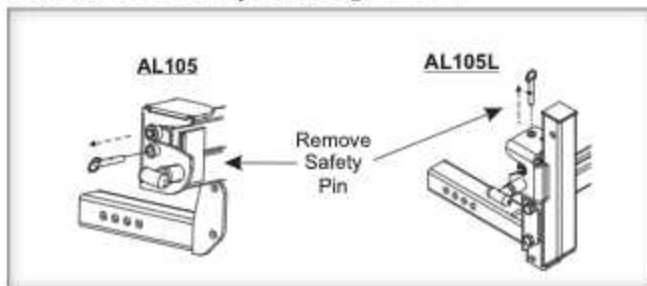

Figure 8-3
1. Remove Safety Pin [Figure 8-3]
NOTE: Two Swing-Away models are available, a standard **AL105** and the lightweight **AL105L**. They work basically the same way but the parts differ slightly as noted in [Figure 8-3].